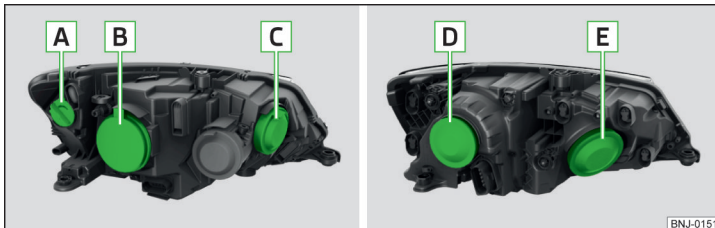

Fig. 295 Left headlamp: halogen/halogen projector headlights
Bulb arrangement » Fig. 295
➤ Remove the protective cap **B** » Fig. 295 on page 237.
➤ Fit the protective cap **B** » Fig. 295 on page 237.
- › Remove the protective cap **C** » Fig. 295 on page 237.
- › Fit the protective cap **C** » Fig. 295 on page 237.
- › Remove the protective cap **D** » Fig. 295 on page 237.